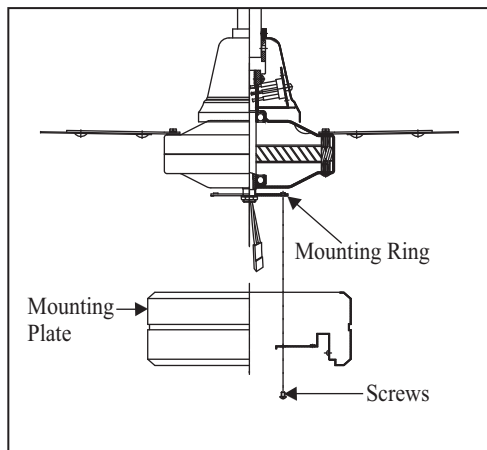

Figure 18
2. Place the key holes on the mounting plate over the 2 screws previously loosened from the mounting ring, turn mounting plate until it locks in place at the narrow section of the key holes. Secure by tightening the 2 screws previously loosened and the one previously removed. (Fig. 18)